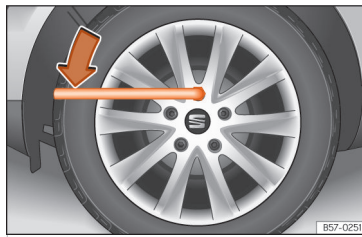

Fig. 190 Tyre change: slacken the wheel bolts.
- Fit the box spanner into the bolt as far as it will go >>> Fig. 190.